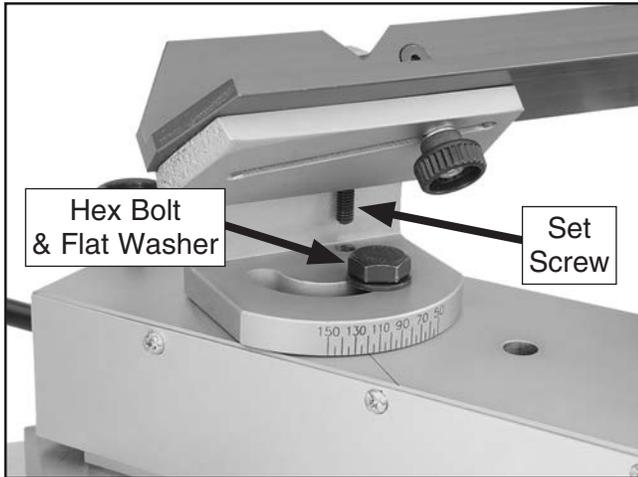

Figure 11. Jig attached to the pivot base.
- To secure the jig assembly, install the hex bolt and flat washer removed in **Step 2** through the jig base and into the pivot base, as shown in **Figure 11**.